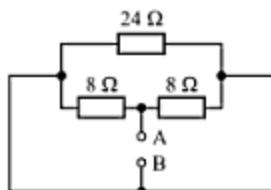

Fig. 2.42
16. Find the equivalent resistance between points A and B in the network shown in Fig. 2.42. [Ans. 4 Ω]